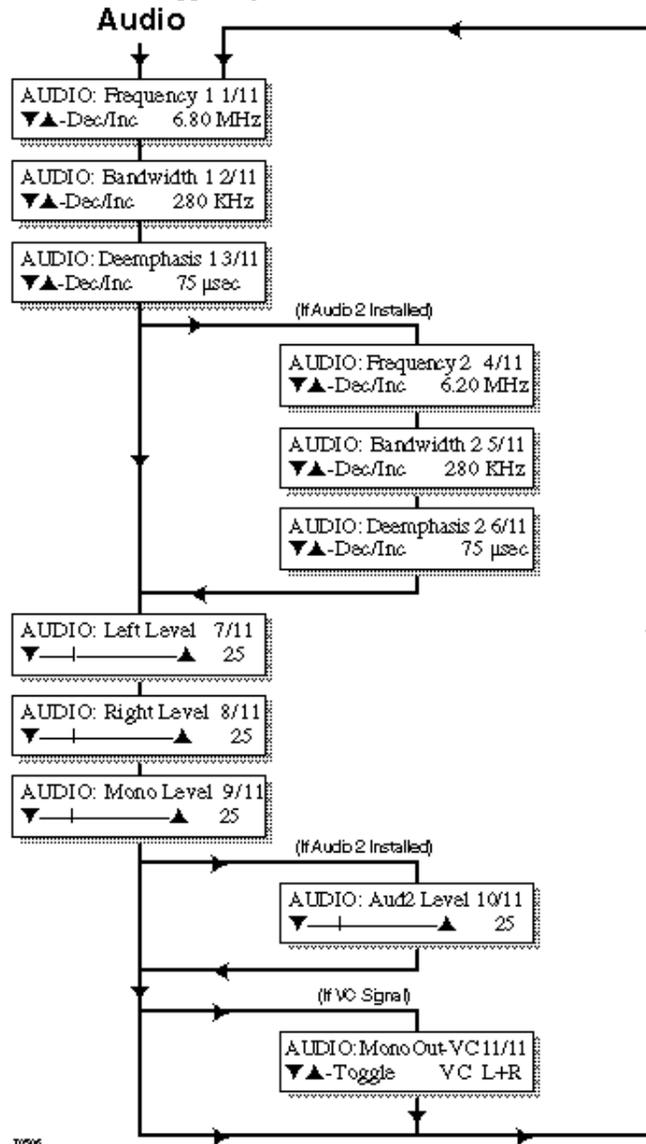

Figure 3-5. Audio Submenus
The audio submenus are selected by pressing the AUDIO key. Once selected, the submenus are sequenced each time the AUDIO key is pressed. The submenus are illustrated in figure 3-5 and briefly described in table 3-8. Each submenu has a tag number located in the upper right corner that identifies the submenu sequence number.
1. Press the **AUDIO** key to select Frequency 1 submenu (tag number 1/11 is displayed in upper right corner, see figure 3-5).
1. Press the **AUDIO** key to select Bandwidth 1 submenu (tag number 2/11 is displayed in upper right corner, see figure 3-5).
1. Press the **AUDIO** key to select Deemphasis 1 submenu (tag number 3/11 is displayed in upper right corner, see figure 3-5).
1. Press the **AUDIO** key to select Frequency 2 submenu (tag number 4/11 is displayed in upper right corner, see figure 3-5).
1. Press the **AUDIO** key to select Bandwidth 2 submenu (tag number 5/11 is displayed in upper right corner, see figure 3-5).
1. Press the **AUDIO** key to select Deemphasis 2 submenu (tag number 6/11 is displayed in upper right corner, see figure 3-5).